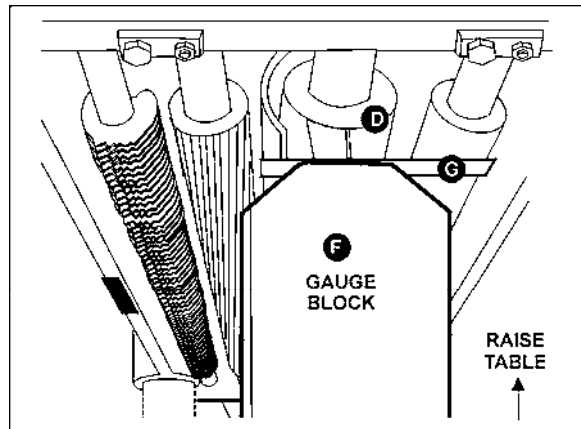

Figure 26
3. Place the gauge block (F, Figure 26) on the table directly beneath the cutterhead (D, Figure 26).
4. Using a 0.02" (0.5mm) feeler gauge (G, Figure 26) placed on top of the gauge block, raise the work table until the knife just touches the feeler gauge when the knife is at its lowest point. Do not move the work table any further until the outfeed roller is adjusted.